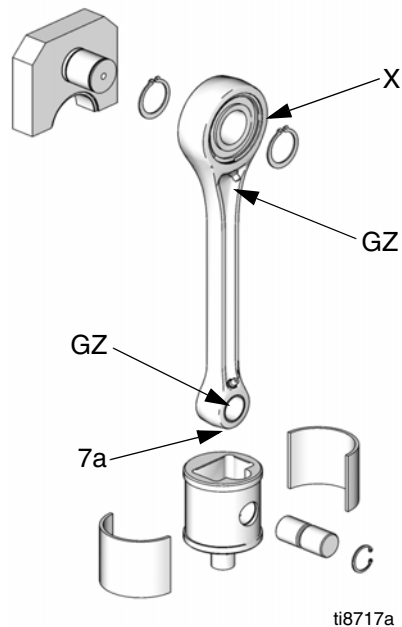

FIG. 9. Lubricate Wrist Pin Bearing Every 6 Months
See FIG. 9. Every 6 months, lubricate the wrist pin bearing (7a) on the connecting rod with 1 shot (1 cc) of 107411 Grease or equivalent, using grease zerk (GZ). Replace both wrist pin bearings annually. Order Wrist Pin Replacement Kit 255216. Lubricate the crank pin bearing (X) annually, using grease zerk (GZ).